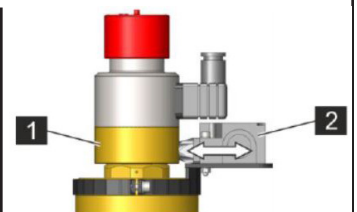

Figure 5
5. Move the switch (Fig. 5/2) away from the release device (Fig. 5/1) as far as possible.